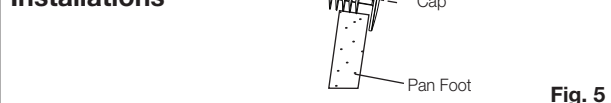

Fig. 5
- 3- Locate blanking cap into pan fixing holes as detailed in **Fig. 5**.